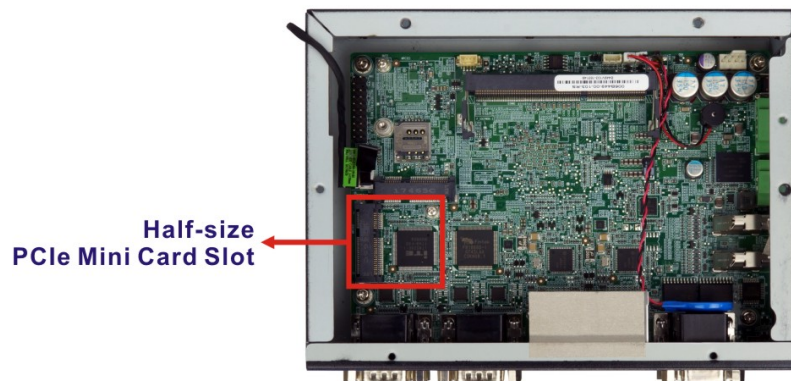

Figure 3-19: WLAN PCIe Mini Card Slot Location
Step 3: Locate the half-size PCIe Mini slot (**Figure 3-19**).